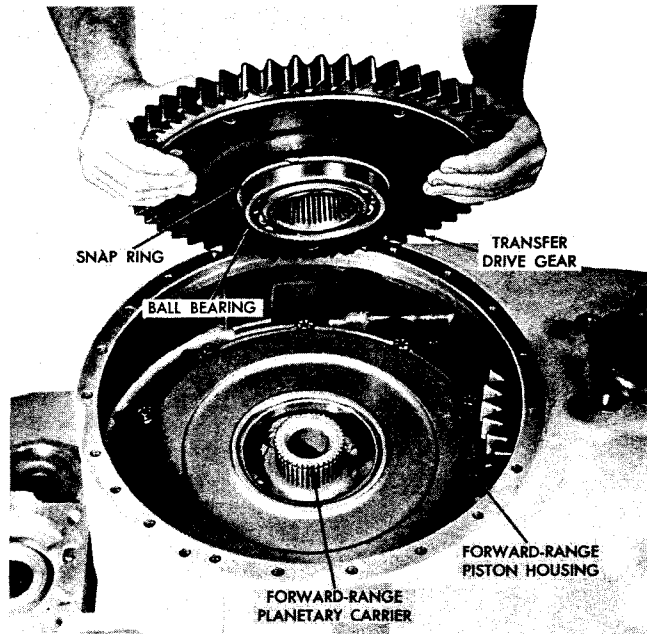

Fig. VII-3. Installing (or removing) transfer drive gear assembly
(6) Install the forward-range piston housing and piston assembly by pressing on the housing to compress the clutch springs, and start two 3/8-16 x 1 1/2 self-locking bolts 180° apart in the holes (fig. VII-3). Install the remaining eight bolts and pull the housing down evenly. Due to one bolt hole not being symmetrical with the other nine, the housing can be installed in one position only. This is to prevent improper installation with respect to the clutch oil apply line in the main housing and piston housing.
(1) Install the transfer drive gear assembly and ball bearing (fig. VII-3).
(7) Install the forward-range piston and housing and 10 self-locking 3/8-16 x 1/2 bolts (fig. VII-3).
(8) Install the transfer gear and bearing assembly with snap ring (fig. V-23), (fig. VII-3).